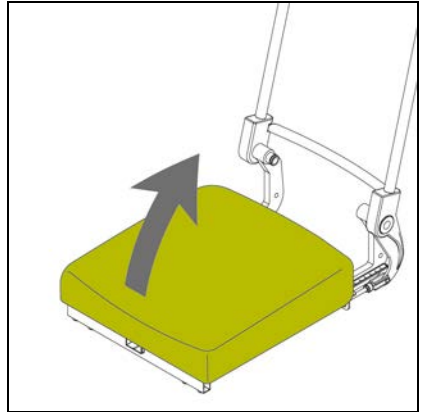

Figure 3.1
**Removing the seat cushion** (fig 3.1).
1. Remove the seat (fig 3.1).